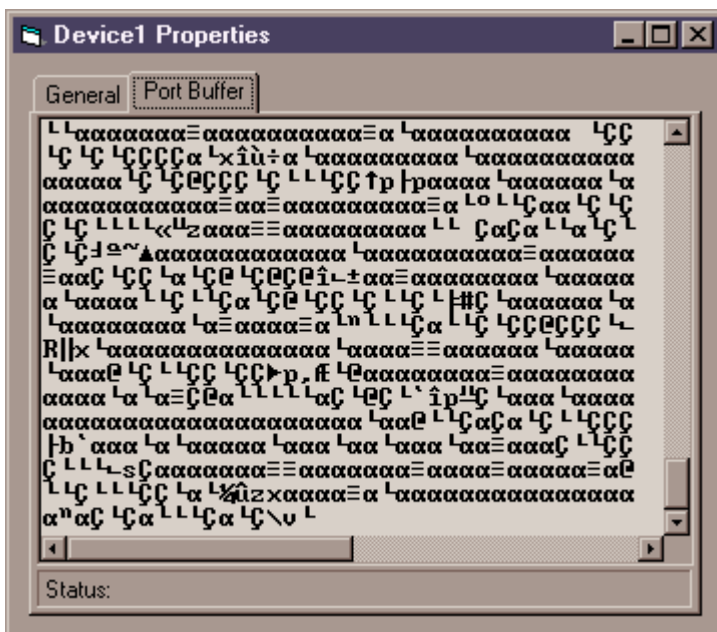

Figure 20
- Once you've selected the “port buffer” tab you will see this screen.[fig.20]